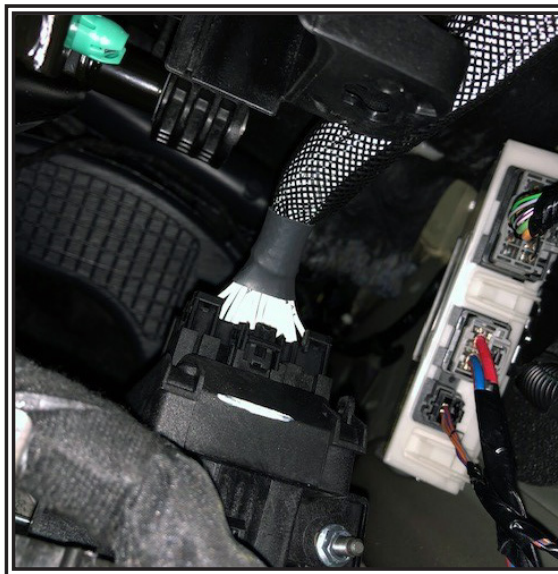

Figure 13
Step 6. Connect the provided harness to the back of the gateway module shown in FIGURE 13.